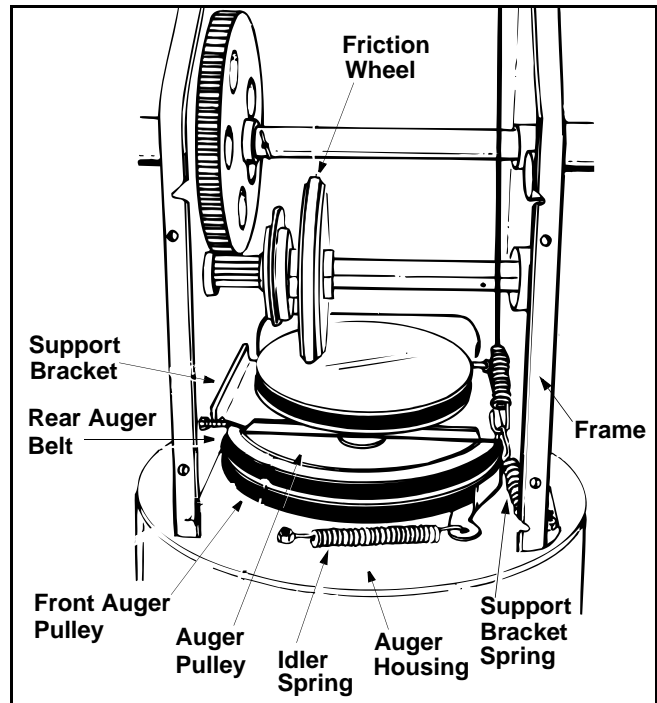

Figure 22
- Unhook the idler spring from the hex bolt on the auger housing. See Figure 22.
- Lift the rear auger belt from the auger pulley, and slip belt between the support bracket and the auger pulley. See Figure 22. Repeat this step for front auger belt.
- Slide friction wheel assembly back onto the gear shaft. Be sure to align the pin on the shift rod with hole in the friction wheel assembly. See Figure 22.